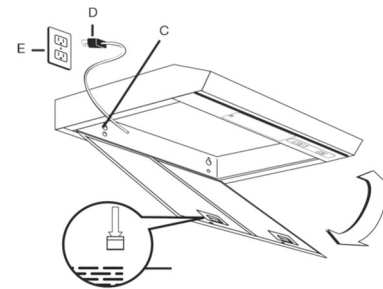

Figure 4
1. Remove the bottom cover of the hood using the safety latches "B" (Fig. 4).
5. Connect the hood's plug "D" to the wall socket "E" (Fig. 4).